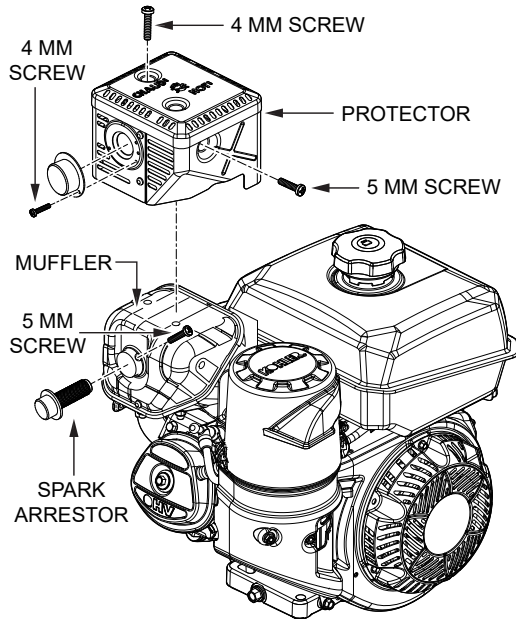

Figure 31. Spark Arrester
1. Remove the 4 mm screw (3) from the exhaust deflector (Figure 31), then remove the deflector.